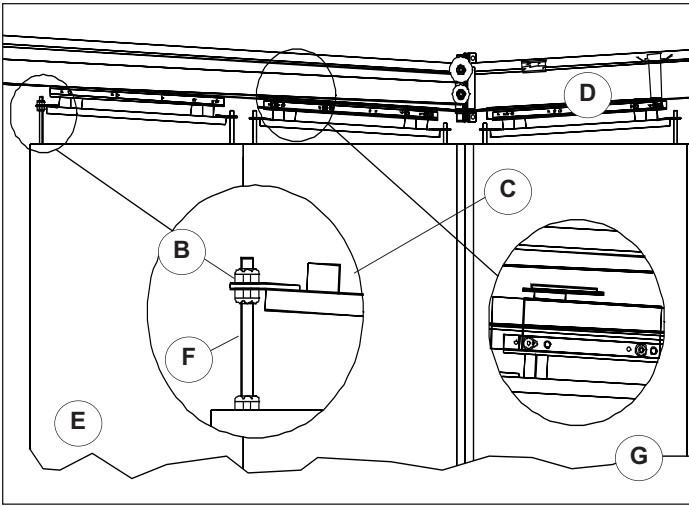

Figure 14.1
7. If panels on the 4P door are not centered when closed, center the door with the non-drive side panel adjusting plate (G), **Figure 14.1**.